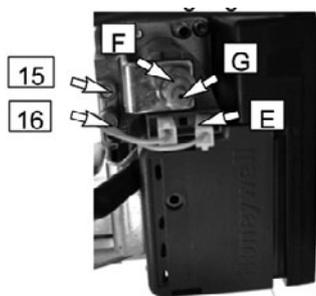

Figure 15.4
- Open the gas valve inlet pressure test point (16 in Fig. 15.4) at the valve input, connect a suitable pressure gauge and check the gas pressure of the supply network.
- Open the gas valve outlet pressure test point (15 in Fig. 15.4) and connect the gauge.
- Rotate the maximum gas pressure adjustment (F in Fig. 15.4) until you obtain the required pressure (by rotating clockwise the pressure increases).
- Turn the boiler off and disconnect one of the two connectors (E in Fig. 15.4).
- Start the boiler and rotate the minimum gas pressure adjustment (G in Fig. 15.4) until you obtain the required pressure (by rotating clockwise the pressure increases).
- Open the gas valve outlet pressure test point 15 (figure 15.4) and connect the gauge.
- Close the gas valve outlet pressure test point 15 (figure 15.4).